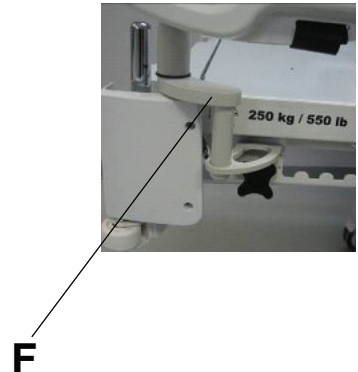

Figure 121: Attaching the tray support
4. Attach the tray support pole into the bracket (F) and into the socket at the head end or foot end of the product (Figure 121 on page 102).